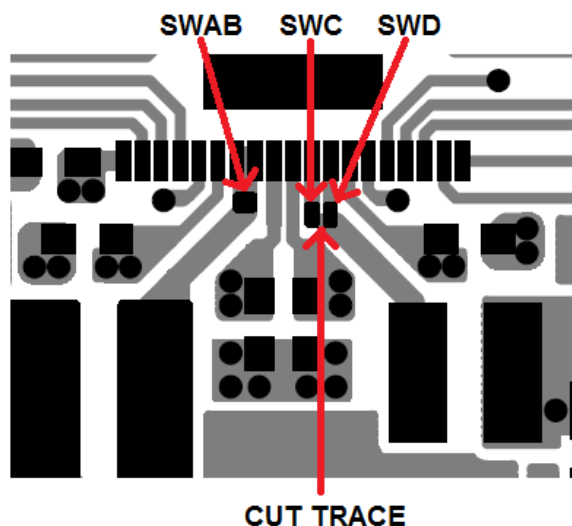

Figure 5. Cut SWC and SWD Connection Near Pins
- Any switch node associated with a V_{IN} trace that was cut will also need to be cut. The SWC/SWD traces and SWD/SWF traces can be cut in between the pads near the SW pins as shown in Figure 5. The SWG/SWH traces only need to be cut for the 4112 configuration. SWH needs to be cut between the SWH pin and L4 as shown in Figure 6.
- All switch nodes of adjoining power stages will need to be connected together. Each power stage has a pad to solder a small bus wire, 28AWG. The switch node pads are also shown in Figure 5 and Figure 6. Carefully solder a bus wire as short as possible between adjoining power stages.